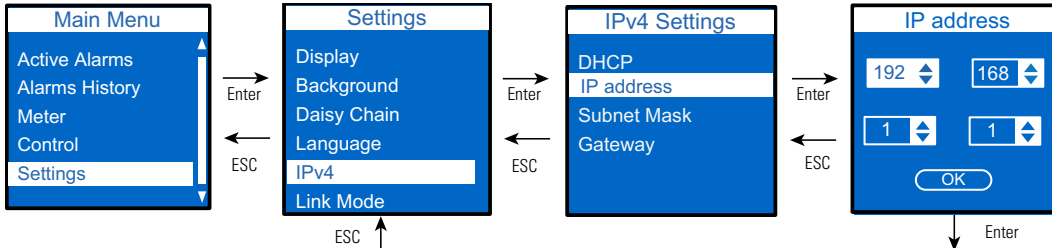

Figure 43. Set the Static IP Address
- 2. Set the static IP address (see Figure 43). Wait 10 seconds.